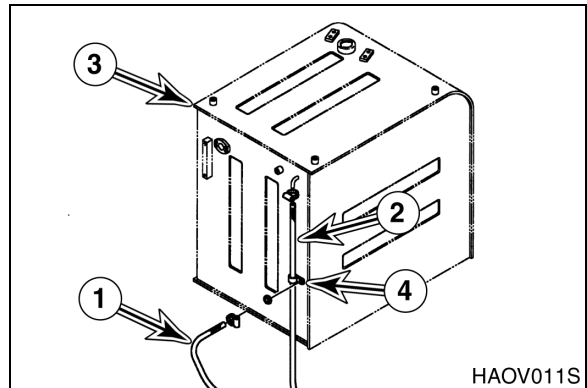

Figure 7
11. Tag and disconnect fuel supply line (1, Figure 7) and fuel return line (2) from the tank (3) and carefully drain remaining fuel from the lines.
12. Remove clamp (4, Figure 7) holding fuel return line (2) to tank (3).